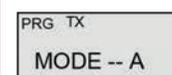

Figure 9
- LCD will Display " ^{PRGTX} MODE-A" for programming the **TX Mode**. (See Figure 9) Press the "PRI" key to toggle between " A", "D", or "M". Select "A" and press the " ENT" key.